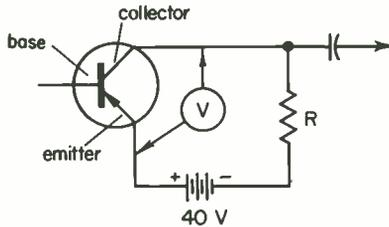

Fig. 52
7. In Fig. 52, the collector-to-emitter circuit of a transistor is shown in series with R and across the 40-V battery. Voltmeter V reads the collector-emitter voltage. If the voltage across R is 12 V, the voltage between collector and emitter is _____ volts.